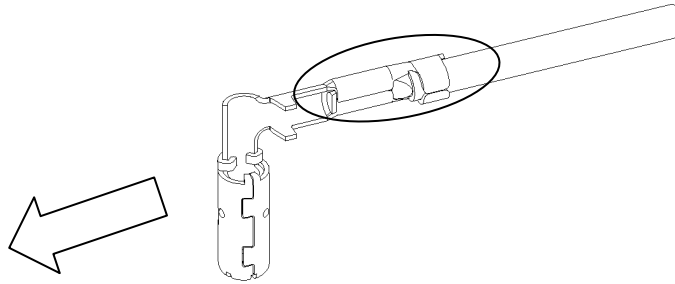

Fig.11
- (d) When to separate parts apart, care must be taken not to jerk and pull forcefully with cross section area. (Fig.11)